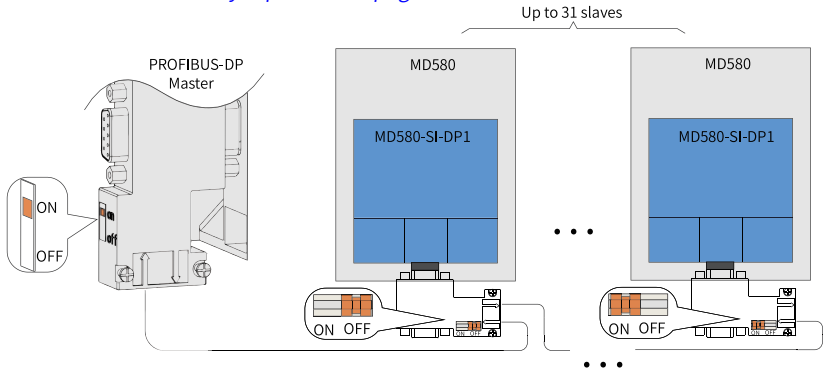

Figure 3-33 Multi-device system connection without any repeater
- For multi-device system connection without any repeater, connect termination resistors at the head and end, as shown in *"Figure 3-33 Multi-device system connection without any repeater" on page 90.*